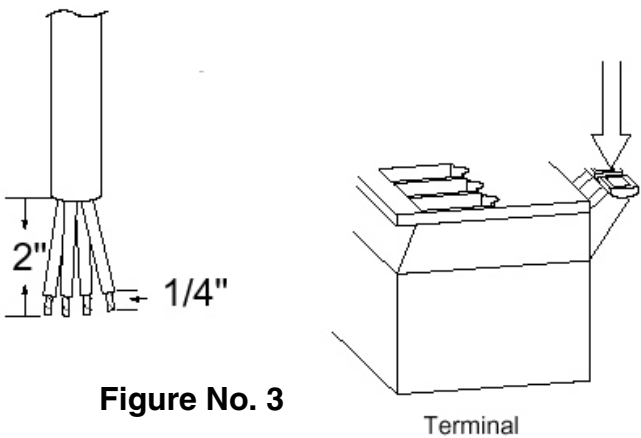
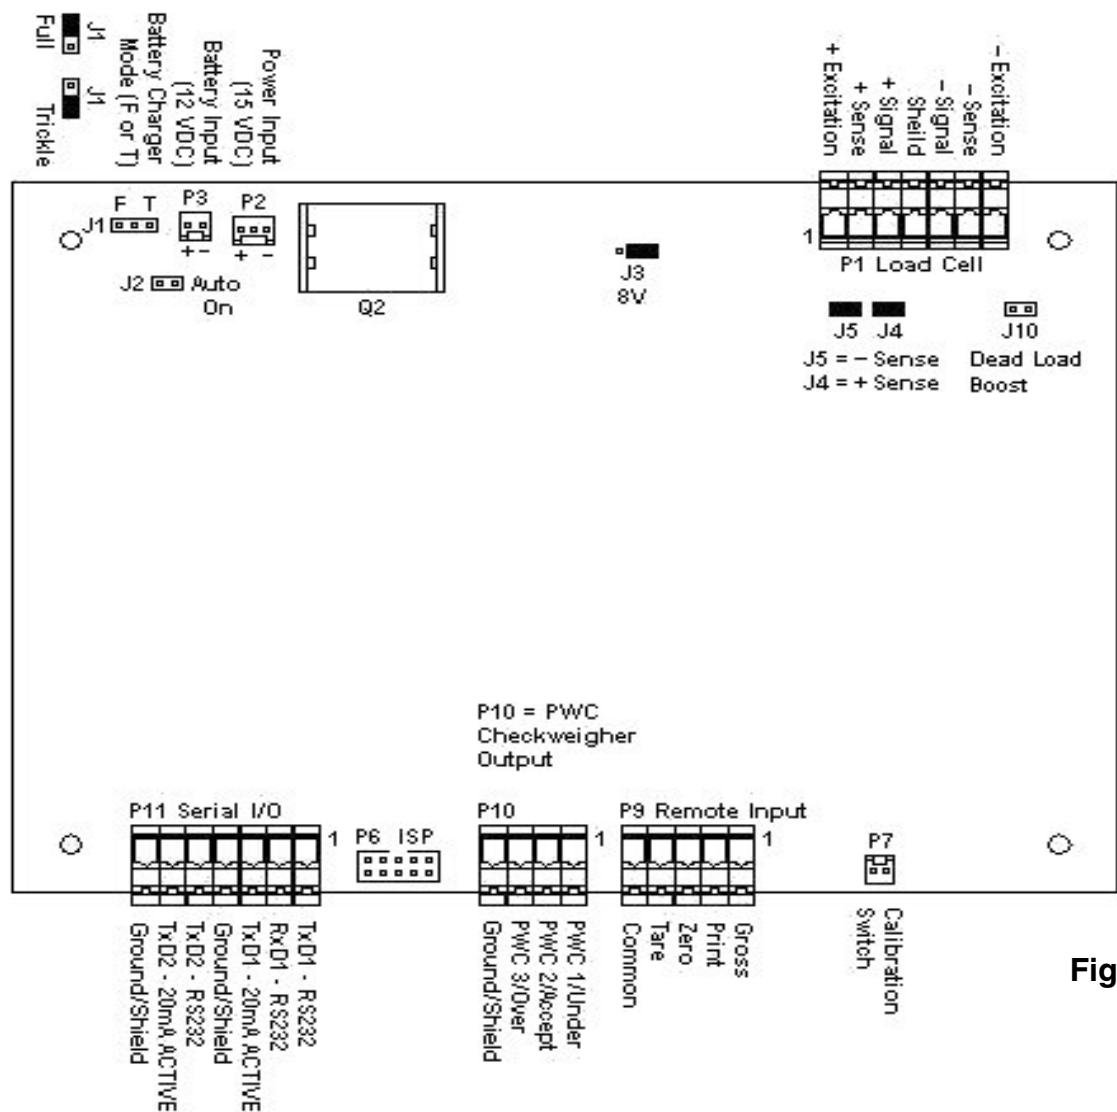

Figure No. 3
Figure No. 6
3. Remove 2" of the outer insulation jacket then remove 1/4" of insulation from each of the 4 wires and shield without sense leads or 6 wires and shield with sense leads (refer to figure No. 3).
- 3. Connect each of the wires to terminal block P1 referring to the labels on the circuit board for terminal connections. Refer to Figure No. 6 for terminal block location.
**NOTE!** If the sense leads are NOT used, you must install plug-in jumpers at J4 and J5 adjacent to the terminal block. These jumpers attach the sense leads to the excitation leads. If sense leads ARE used (as in motor truck scales), these plug-in jumpers should be positioned on one plug-in pin only or removed and stored for later use (see Figure No. 6).
- 3. Remove 2" of the outer insulation jacket then remove 1/4" of insulation from each of the wires (refer to Figure No. 3).
- 4. Connect each of the wires to the Serial Data terminal block (P11) referring to Figure No. 6 for terminal block locations.
Included with the I/O are 4 programmable inputs that may be used to remotely (up to 100 feet) initiate various functions within the indicator. These inputs are accessed via a terminal block (P9) on the back of the PC board (see Figure No. 6). The 4 inputs are defined as follows:
To connect the control cable to the preset weight comparator/checkweigher logic level output connector P10, first loosen the gland connector located on the back of the 210 on the right side. Refer to Figure No. 6 for the exact location of this connector. Slip the cable through this connector and into the enclosure. Remove 2 inches of the cable insulating jacket then 1/4 inch of insulation from each of the internal wires (refer to Figure No. 3). Make the proper terminations on terminal block P10. To terminate a wire, first press down on the terminal block release bar, insert the wire into the terminal and remove pressure from the release bar locking the wire in place.